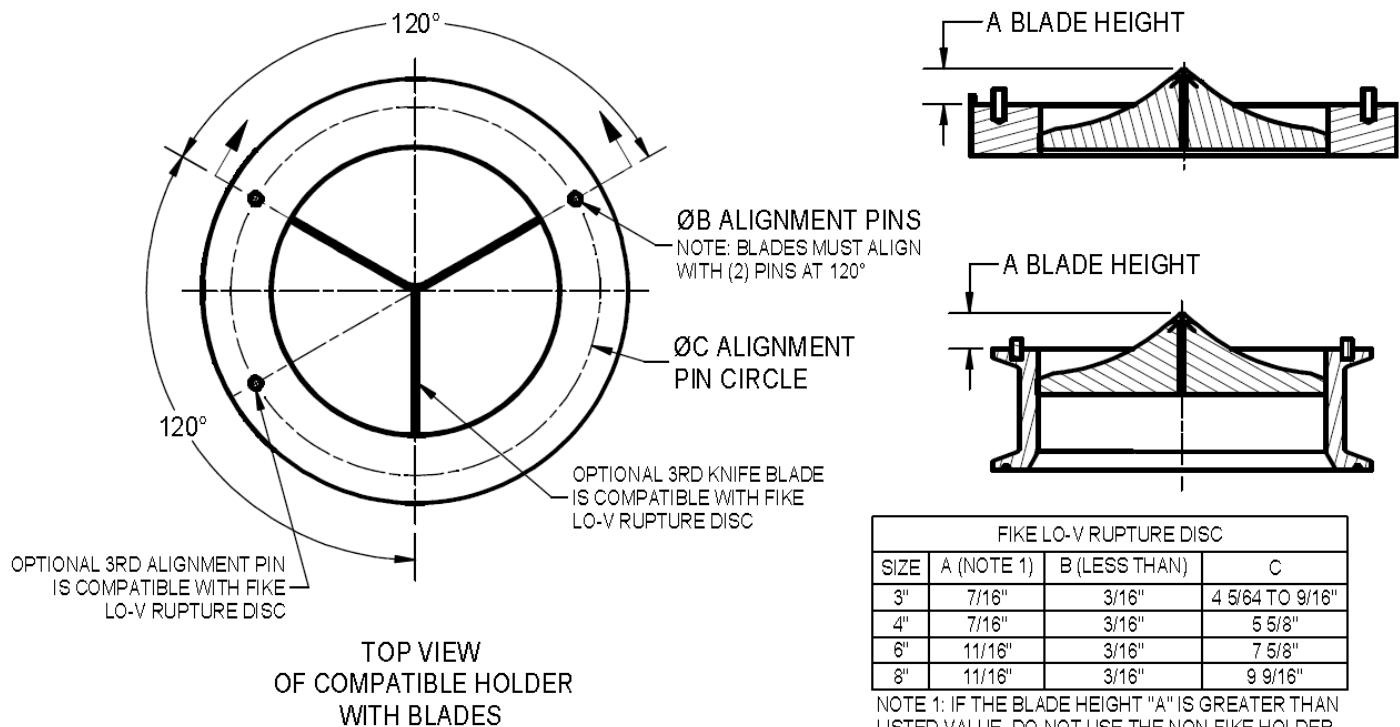

Figure 1 - Holder Fit-Up specifications for Non-Fike Holders and Lo-V Rupture Discs
- If installing a Fike Lo-V rupture disc in a non-Fike holder, verify the holder complies with following specifications for the Lo-V rupture disc. (See Figure 1 on next page).
9. ASSEMBLY - Before attempting to assemble the rupture disc and holder, confirm that the seat area of the rupture disc is designed to fit the rupture disc holder (See Figure 1).